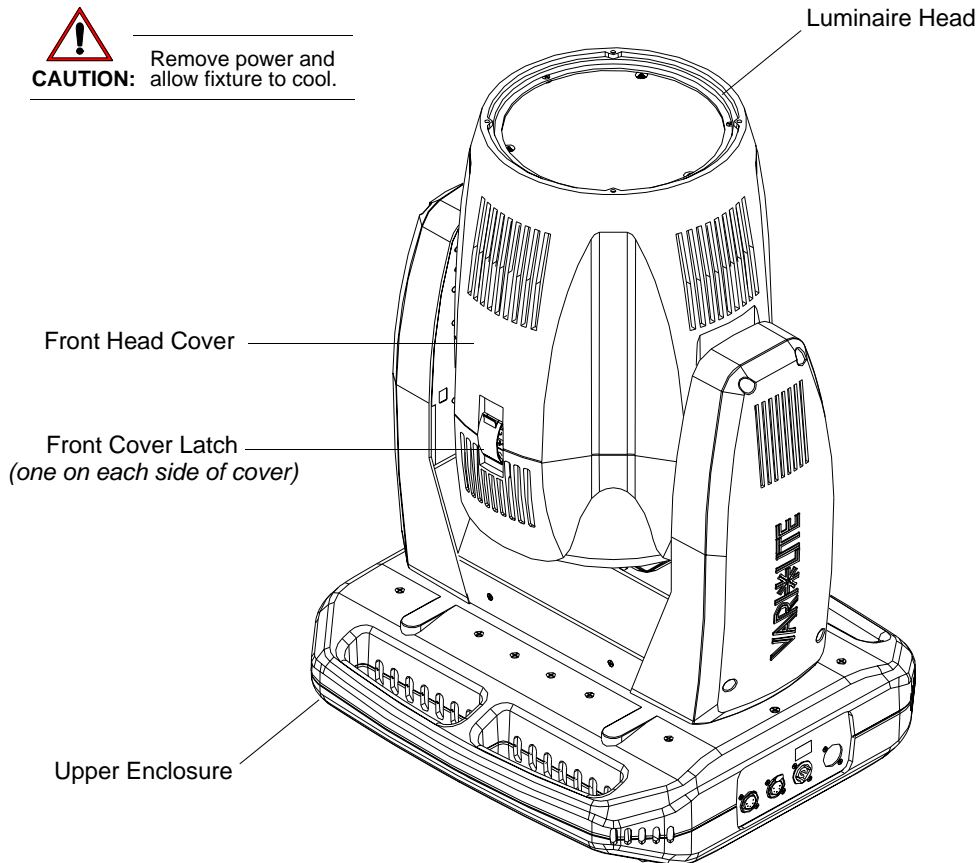

Figure 2-5: VLX Wash Luminaire
Step 2. Carefully set luminaire on upper enclosure, rotate head as shown in Figure 2-5, and engage tilt lock.